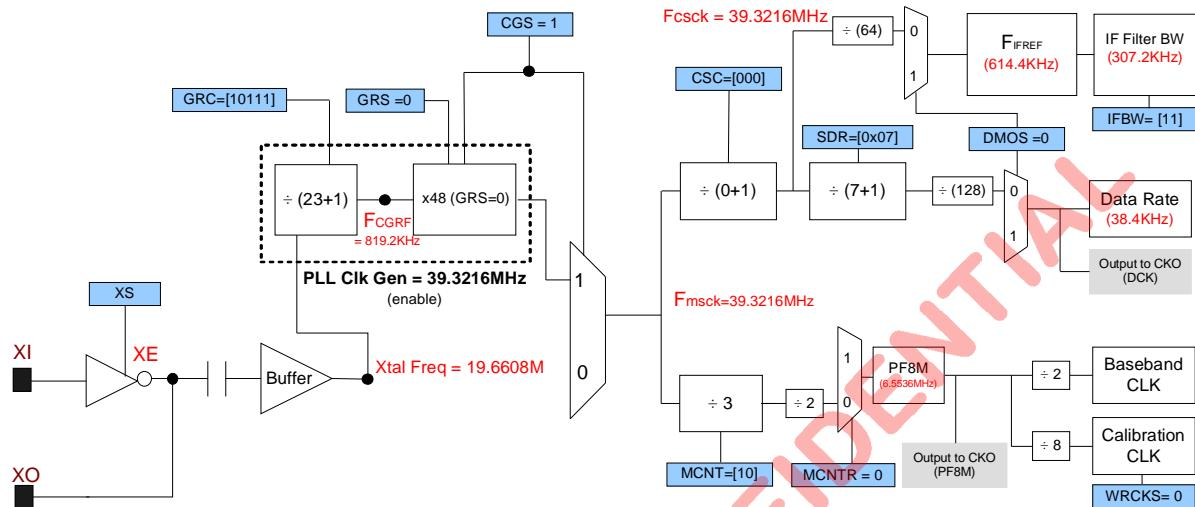

Figure 12.5 Configurations of 38.4Kbps when IFBW = 307.2KHz
5. If choosing IFBW = [11]. IFBW will become 307.2KHz instead of the expected 250KHz because of  $F_{IFREF}$  (higher  $F_{IFREF}$  results larger IF bandwidth if IF Filter Calibration is successful.). Figure 12.5 illustrates the different results of CSC and FCSCK.